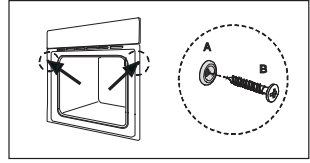

Figure 1
2. Using screws, fix the oven onto the installation frame location (figure 1).